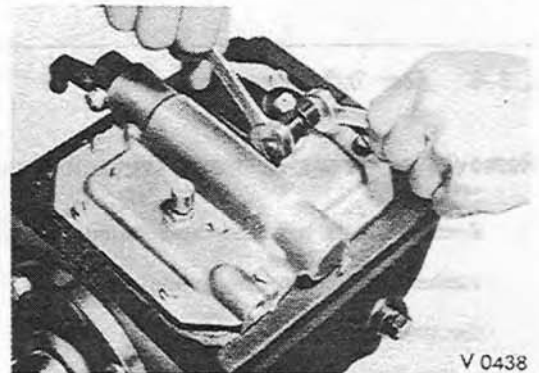

Fig. 3-12. Removing the gear shift selecting lever.
6. Remove the gear shift selecting lever. (Fig. 3-12)